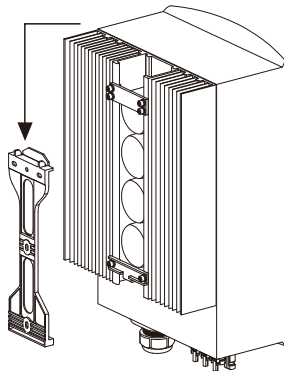

Figure 4.6 Wall Mount Bracket
4. Lift up the inverter (be careful to avoid body strain), and align the back bracket on the inverter with the convex section of the mounting bracket. Hang the inverter on the mounting bracket and make sure the inverter is secure (see Figure 4.6).